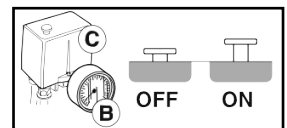

Fig. 2
STARTING (FIG. 2)
1. Make sure the main switch is in position "OFF" (Fig. 2). Plug in the equipment.
2. Start up the compressor by turning the pressure switch to position "ON" (Fig. 2).
NOTE: The pressure switch (C) (Fig.2), stops the motor at the max pressure setting and makes the compressor start again when pressure goes below the minimum threshold (i.e. about 2 bar less than the max pressure).
Never stop the compressor by unplugging it; rather turn OFF the switch located on the pressure switch (Fig. 2). The compressed air inside the compressor head will flow out and will make the re- start easier.